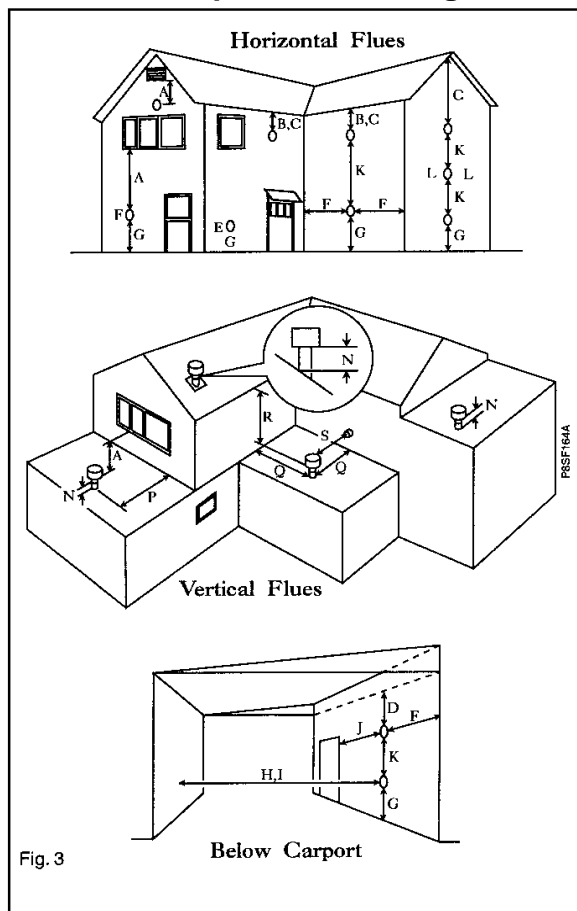

Fig. 3
1.3 Flue Terminal and Ducting (Fig: 3 - a, b & c)
90° In-line elbow kits (Part No. 31-19034) and **135° In-line Bend** kits (Part No. 31-19035) are also available for more flexible siting. Horizontal flues can be set at 45° angles to the combination boiler, through 360°, to the miniature terminal on the outside of the building. The siting positions for horizontal flue terminals are shown in Figs. 3. - a) & b).
135° Off-set kits are available for both types (Part No.31-19035 concentric) and (Part No.31-19039 twin tube). The siting of the flue terminal through a roof is shown in Fig 3. - c). Only the above flue systems should be used with Puma Flowsure+ storage combination boilers.